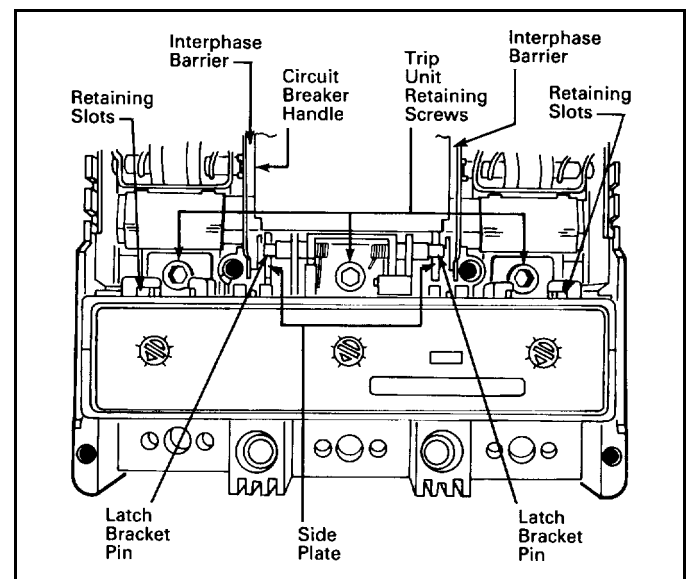
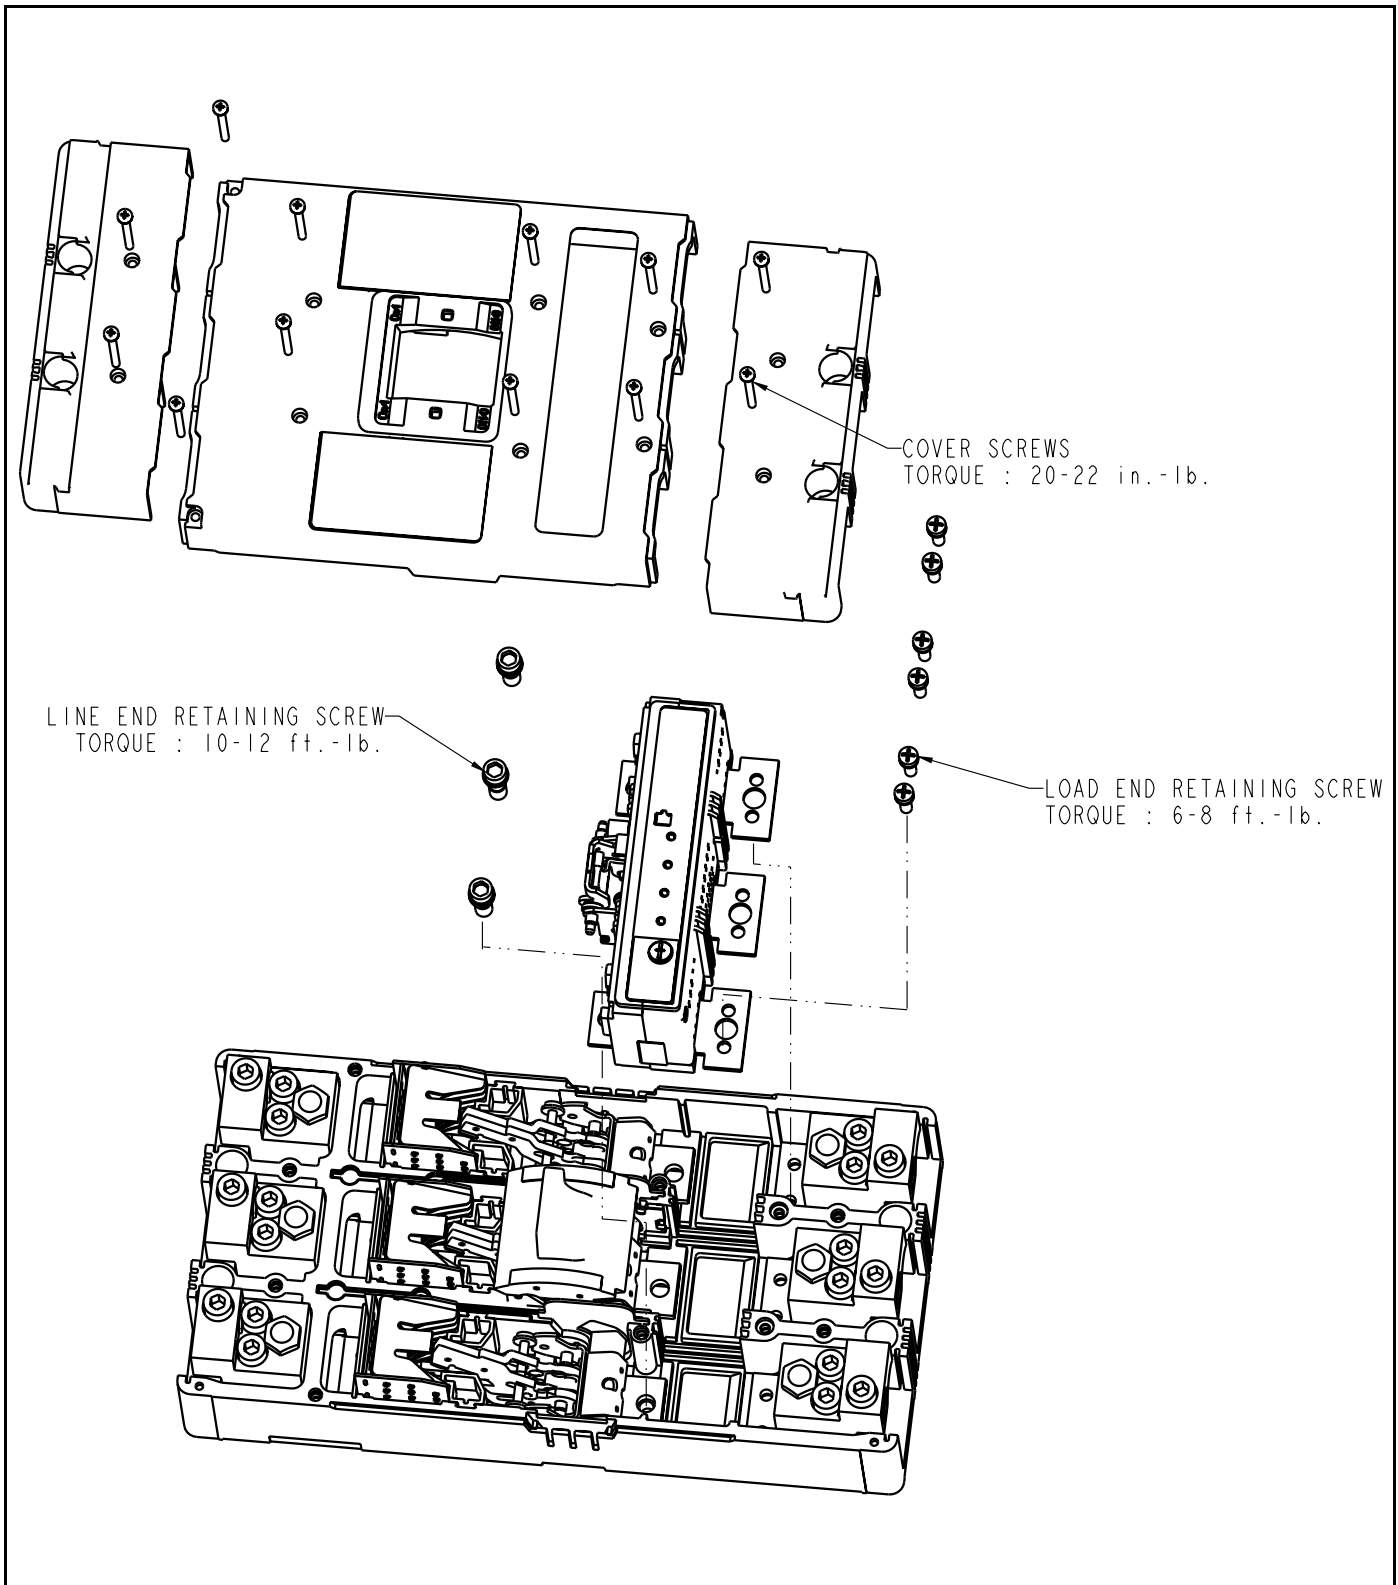

Fig. 2-1 Trip Unit Installed in an LD Frame
Fig. 2-2 Trip Unit and Covers Installation in an MDL Frame
- 2-4. Position trip unit in base. Make sure latch bracket pin is properly seated in slots in side plates (see Fig. 2-1). If necessary, push circuit breaker handle towards the closed position to help seat trip unit.
- 2-5. Screw in and tighten the trip unit retaining screws in each pole (mechanism pole first). Torque the line-end screws to 10-12 lb ft (13.56-16.27 N.m) (See Fig. 2-1). For the MDL-frame, torque the load-end screws to 6-8 lb ft (8.14-10.85 N.m). (See Fig. 2-2.)
- 2-9. Install the circuit breaker main cover and terminal cover on the LD-frame. Install the main cover and both terminal covers on the MDL-frame. Secure with the original screws and torque them to 20-22 lb in (2.26-2.49 N.m). (See Fig. 2-2.)